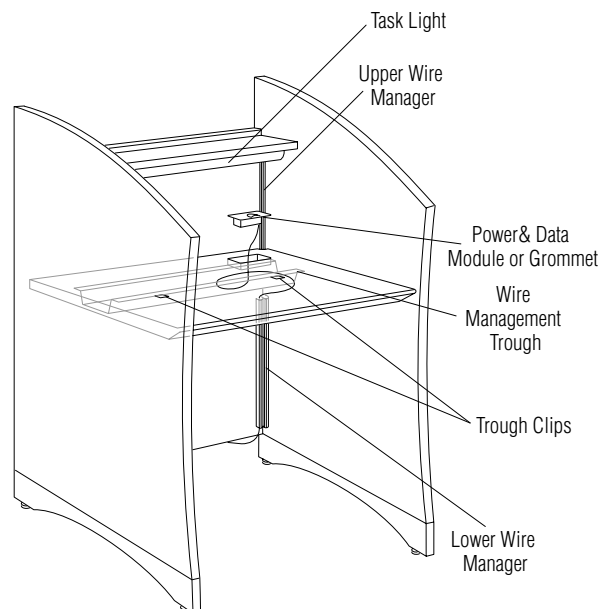

Figure 5
13. Snap the power & data module (or grommet) into place on the top of the worksurface with the electrical cord feeding through grommet opening (Figure 5).
14. Route the module cord (or other electrical cords or data lines) through either end of the wire management trough. If a cord is to be routed the opposite direction that it comes out of the module/grommet, make a 6" loop with the cord to change direction (Figure 5).